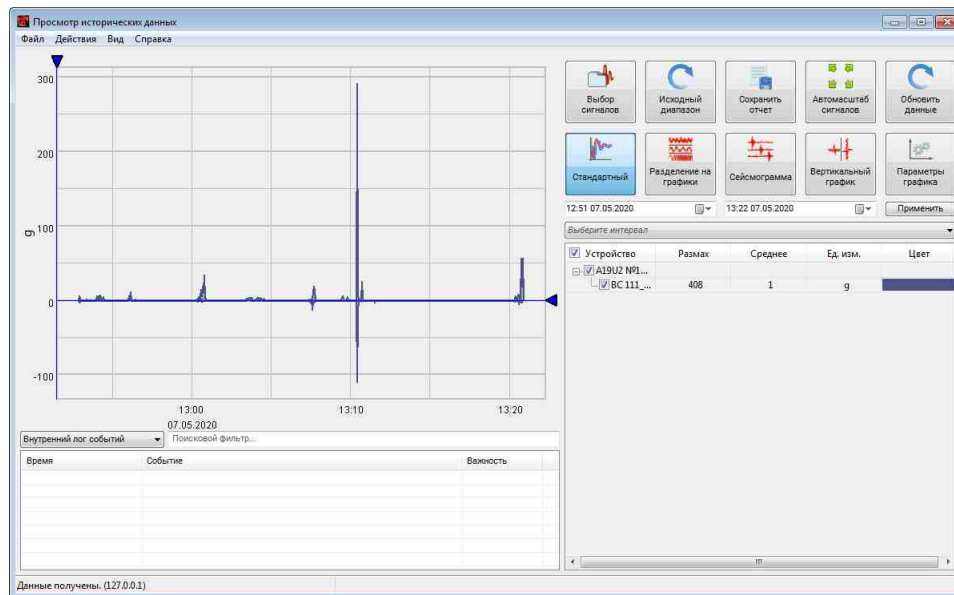

Fig. 2.2 Signal trends viewing
4. It is convenient to view the signals registered in the continuous recording mode using the “**Signal trends viewing**” program (*Fig. 2.2*), which is launched from the “Registration” menu of the ZETLAB panel.